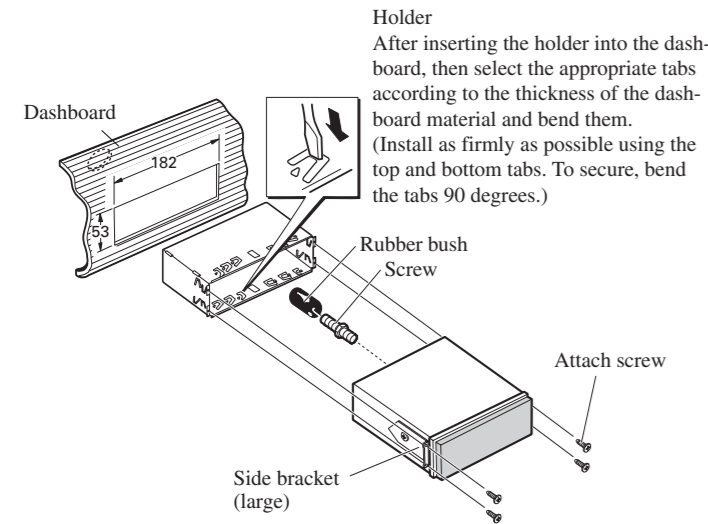

Fig. 8
3. Fastening the unit. (Fig. 8)